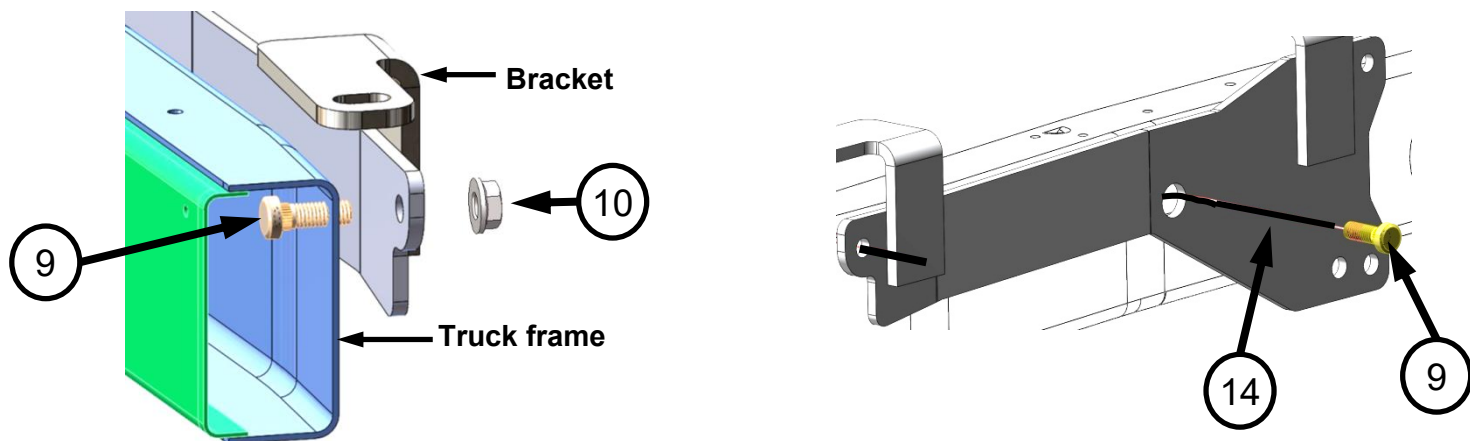

Figure:7 | **Front Driver Side Shown**
15. Insert the coiled end of the pull wire (#14) through $17/32$ " hole (see fig.7), angle the wire to guide the coiled end along the inside of the truck frame rearward. Continue feeding pull wire and look through the 1" dia. bracket hole for the coiled end of the pull wire. Use a pair of needle nose pliers to guide the coiled end of the pull wire out through the 1" dia. hole, ensure the other end of the pull wire remains protruding through the $17/32$ " hole. Thread the end of the wheel bolt into the coiled end of the pull wire completely. Carefully pull the other end of the pull wire and guide the wheel bolt into the 1" dia. bracket hole. Continue pulling wire so the threaded end of the wheel bolt can be pulled through the $17/32$ " dia. hole from the inside. Hold onto the wheel bolt with one hand and carefully remove the pull wire from the threads, then install the nylock nut onto the wheel bolt. Use of an air wrench will make seating the serrations of the wheel bolt into the hole much easier. Otherwise you can use a standard $1/2$ " nut to start pulling the wheel bolt through the hole and then replace it with the nylock nut.